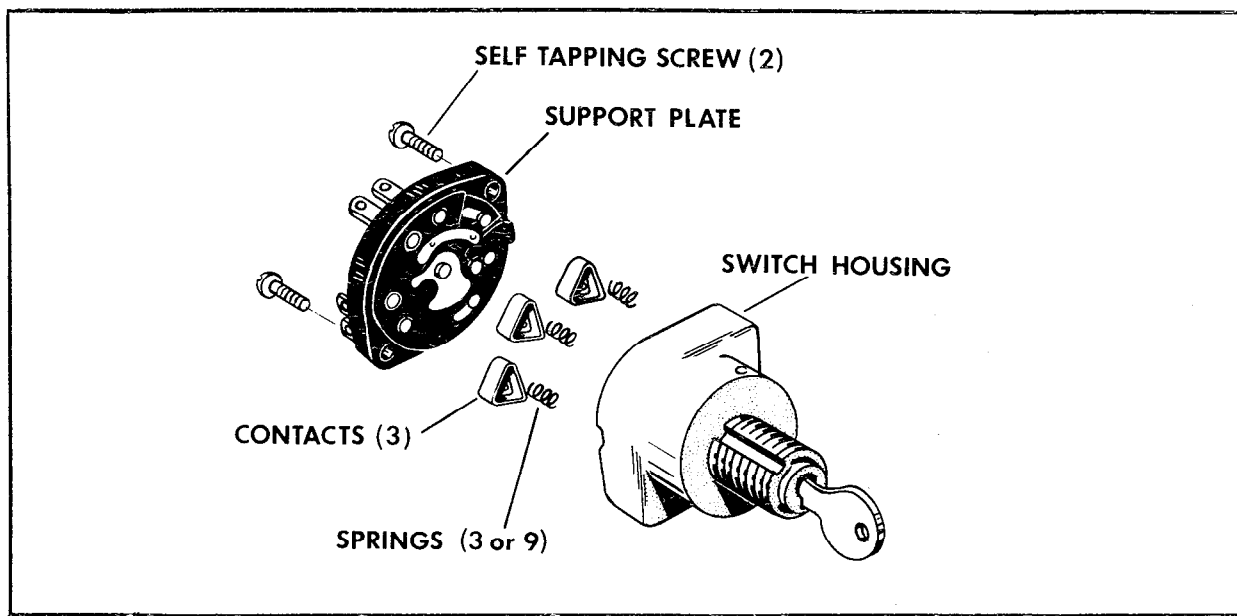

Figure 1. Identification of Switch Parts.
B. To install a new Support Plate and Contacts, proceed as follows using Figure 1 as a guide for parts identification.